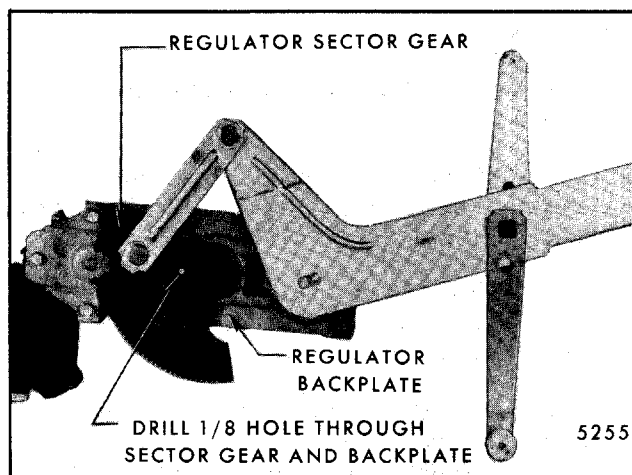

Fig. 7-136 - Tailgate Window Regulator Motor Removal
2. Drill a 1/8" hole through the regulator sector gear and back plate (Fig. 7-136). DO NOT drill hole closer than 1/2" to edge of sector gear or back plate. Install a pan head sheet metal tapping screw (no. 10-12 x 3/4") in drilled hole to lock sector gear in position.